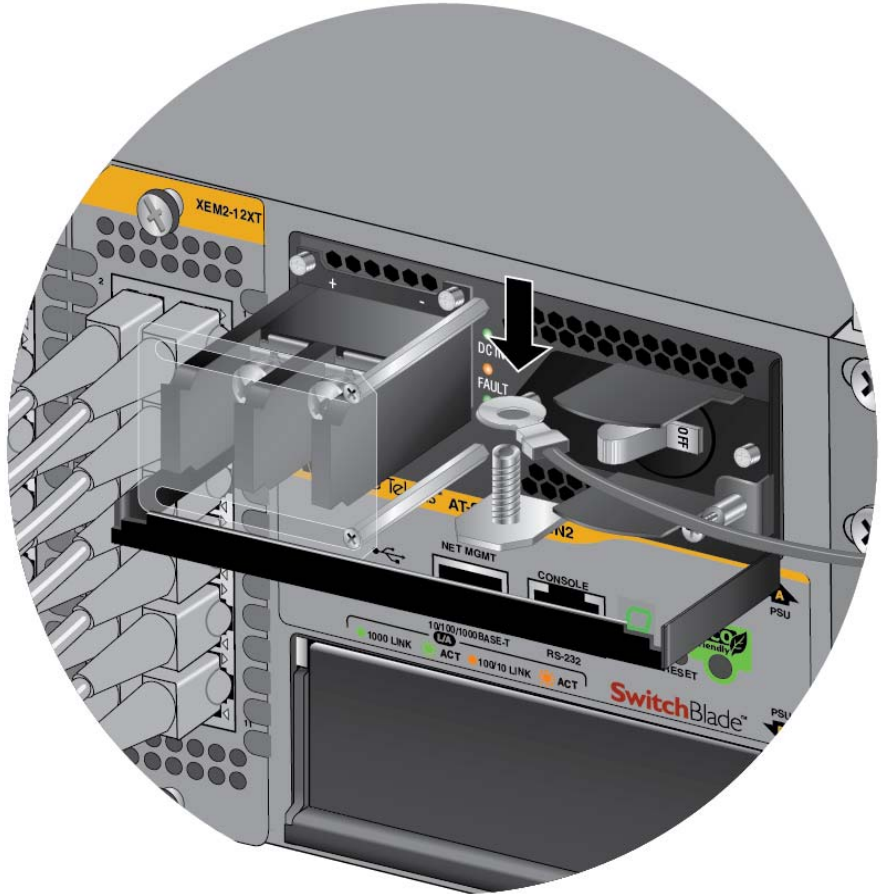

Figure 62. Attaching the Grounding Lug and Wire to the Grounding Post
5. Attach the grounding lug and wire to the grounding post. Refer to Figure 62 on page 99.